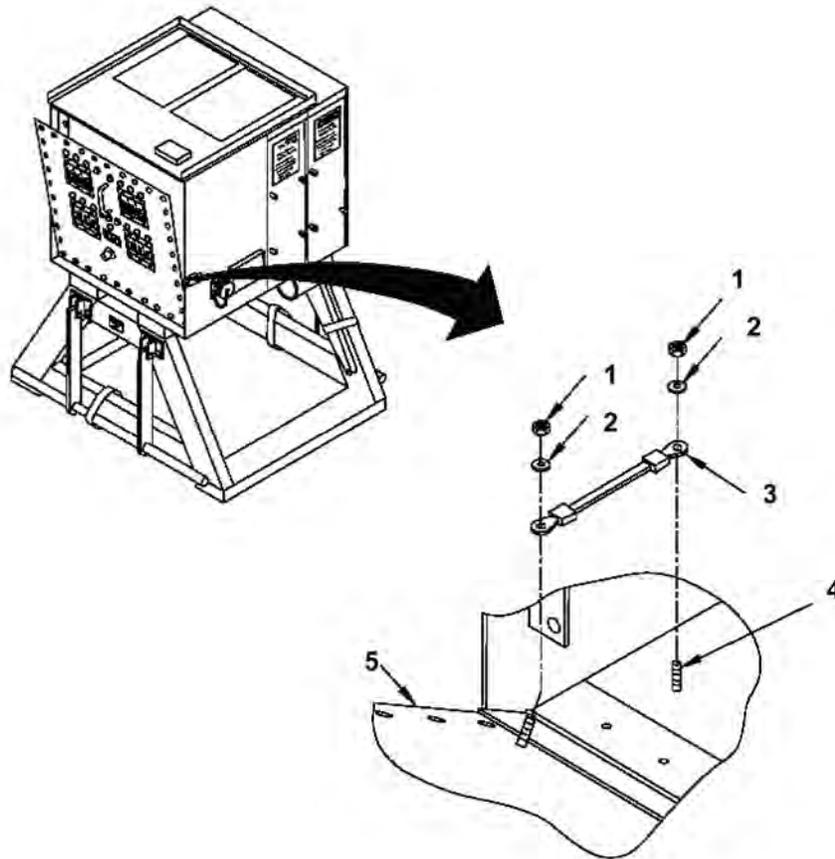

Figure 1. Ground Strap, Circuit Breaker Panel.
3. Position ground strap (Figure 1, Item 3) on mounting studs (Figure 1, Item 4) and secure it to the Power Distribution Box by installing two flat washers (Figure 1, Item 2) and lock nuts (Figure 1, Item 1).
4. Perform steps contained in WP 0027 to secure circuit breaker panel (Figure 1, Item 5).